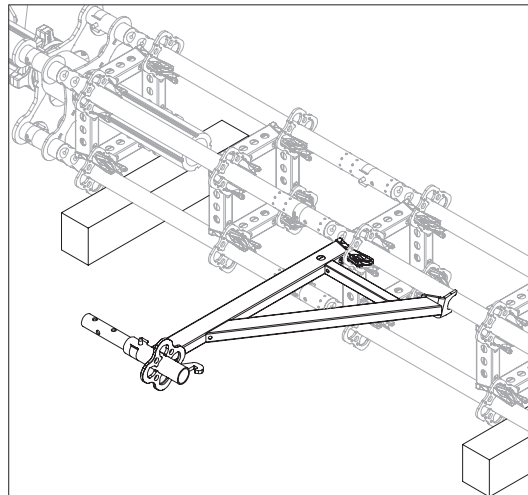

Fig. A6.03
2. Fit Console Bracket UCM 75 (40) in the required position. (Fig. A6.03 + A6.04)